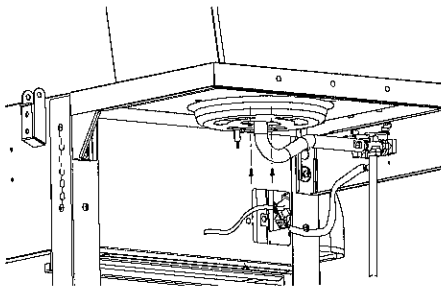

Fig.11D
Refer to Fig. 11D and make certain that the VALVE TIP is INSIDE the tube. Attach the Burner Assembly to the Burner Housing with (2) M4X8 screws from the UNDERSIDE of the housing as shown.